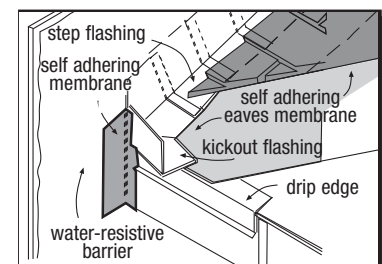

FIGURE 14
- Install kickout flashing at roof-wall junctions (fig. 14).
Because of the volume of water that can pour down a sloped roof, one of the most critical flashing details occurs where a roof intersects a sidewall. The roof must be flashed with step flashing. Where the roof terminates, install a kickout to deflect water away from the siding. It is best to install a self-adhering membrane on the wall before the subfascia and trim boards are nailed in place, and then come back to install the kickout. To prevent water from dumping behind the siding and the end of the roof intersection, install a "kickout" of sufficient length and angle to direct the water running down the roof away from the siding (fig. 14).†
† The illustration (figure 14) and associated text was reprinted with permission of THE JOURNAL OF LIGHT CONSTRUCTION. For subscription information visit [www.jlconline.com](http://www.jlconline.com).